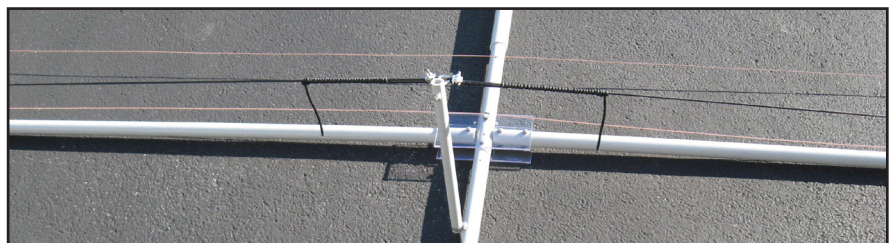

Fig. 103
- Repeat this step to dress the other Lanyard excess as shown in Fig. 103.